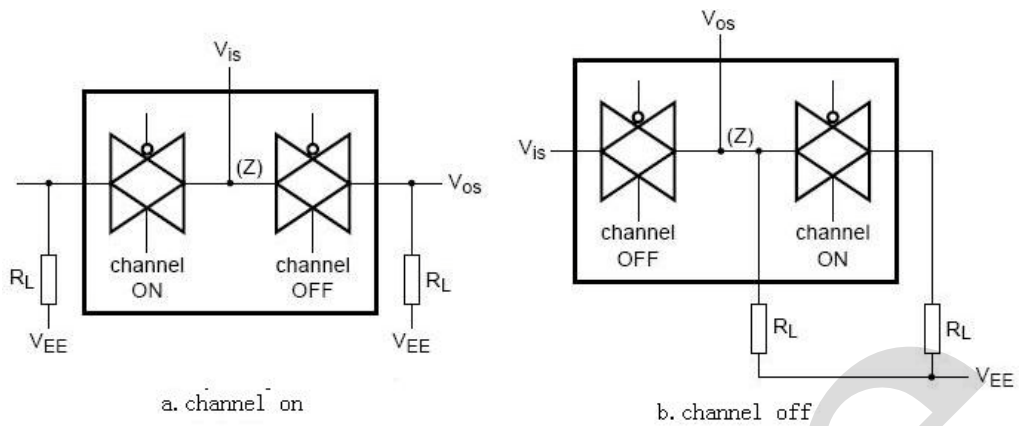

Figure 12. Inter channel Crosstalk
- [2] $R_L=1k\Omega$; $20\log V_{os}/V_{is}=-50dB$, see Figure 12.